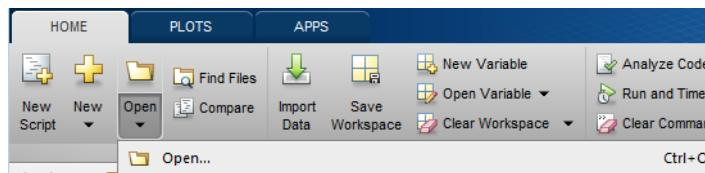

Figure 11-3: Open the System Generator Design
- When Matlab invokes, click the **Open** toolbar button, as shown in Figure 11-3.